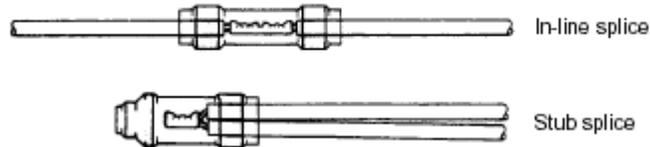

Figure 20-15 Center Sealing Sleeve
6. Center the sealing sleeve over the splice area as shown in Figure 20-15.